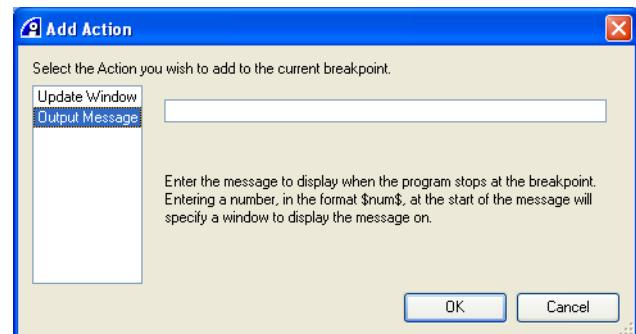

Figure 12-2 Add Action dialog box
3. Click **Add** in the Actions group. The Add Action dialog box is displayed, shown in Figure 12-2.
3. Click **Add** in the Actions group. The Add Action dialog box is displayed, shown in Figure 12-2 on page 12-4.